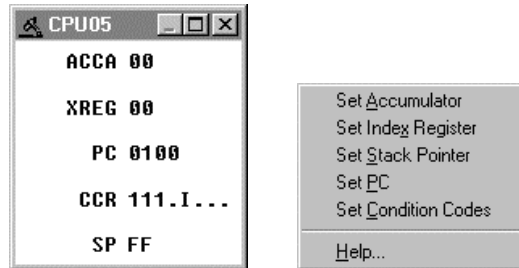

Figure 6-13. CPU Window with Shortcut Menu
Use the CPU Window (Figure 6-13) or its shortcut menu options to view and modify the current state of registers within the CPU.
- To change CPU register values using the shortcut menu options, position the cursor in the CPU window and click the right mouse button. Choose the option from the shortcut menu shown on the right of Figure 6-13. Enter the new value in the dialog and press *OK* to close the dialog and save the new value.